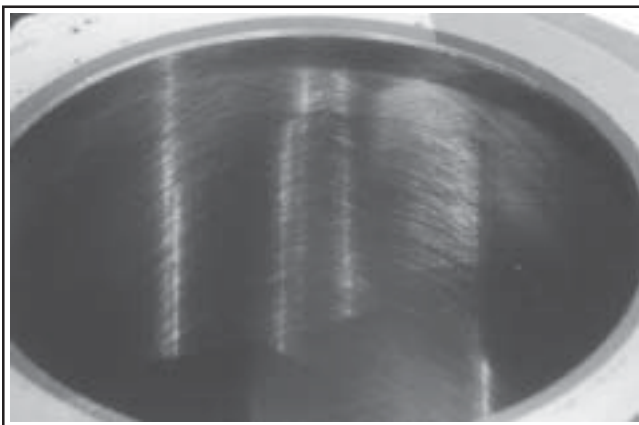

Figure 10-3. Cylinder Bore Crosshatch After Honing.
3. When the bore is within **0.064 mm (0.0025 in.)** of desired size, remove the coarse stones and replace with burnishing stones. Continue with the burnishing stones until within **0.013 mm (0.0005 in.)** of desired size and then use finish stones (220-280 grit) and polish to final size. A crosshatch should be observed if honing is done correctly. The crosshatch should intersect at approximately 23-33° off the horizontal. Too flat an angle could cause the rings to skip and wear excessively, too steep an angle will result in high oil consumption. See Figure 10-3.